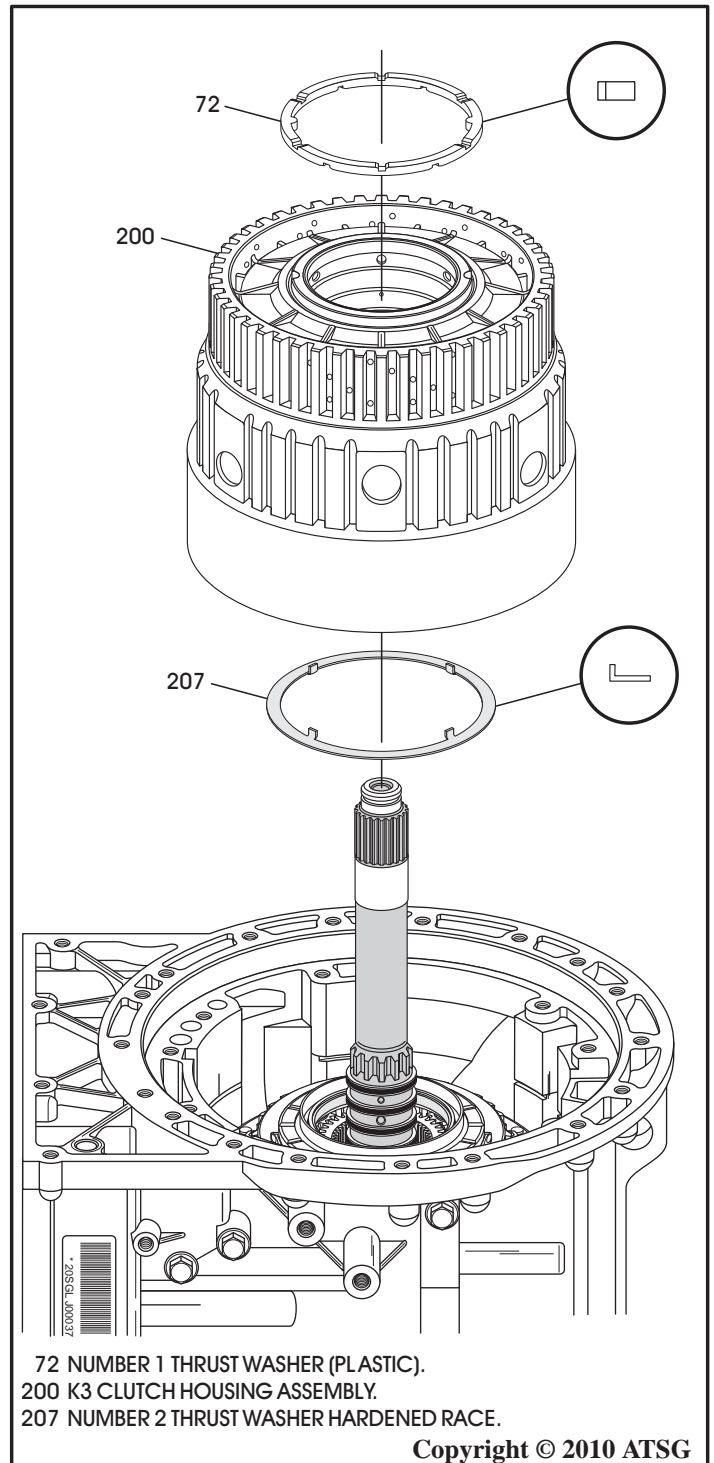

Figure 215
33. Ensure number 2 thrust washer hardened race is still stuck to the K3 balance piston, as shown in Figure 215.
34. Install completed K3 clutch housing, as shown in Figure 215, by rotating back and forth until fully seated.
34. Install the number 1 thrust washer, as shown in Figure 215, engaging tabs into the slots of the K3 clutch housing.